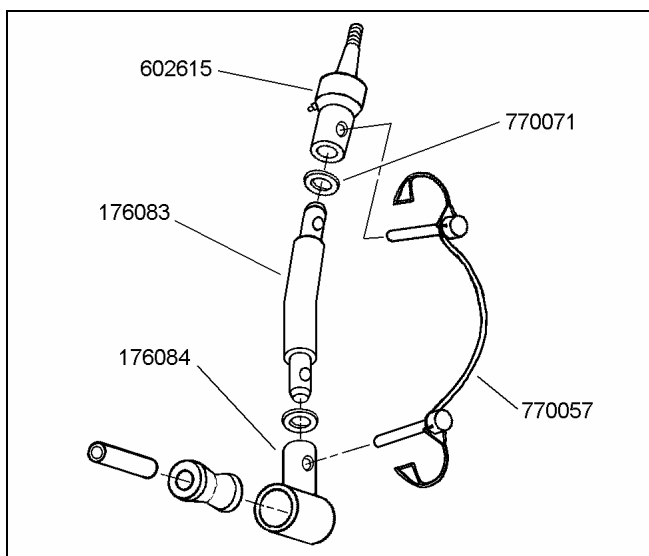

Figure 9
- 4) ☐ Connect the bottom socket assembly to a top swivel (176082) with the center section. Insert a set of locking pins (770057) as shown in figure 9.